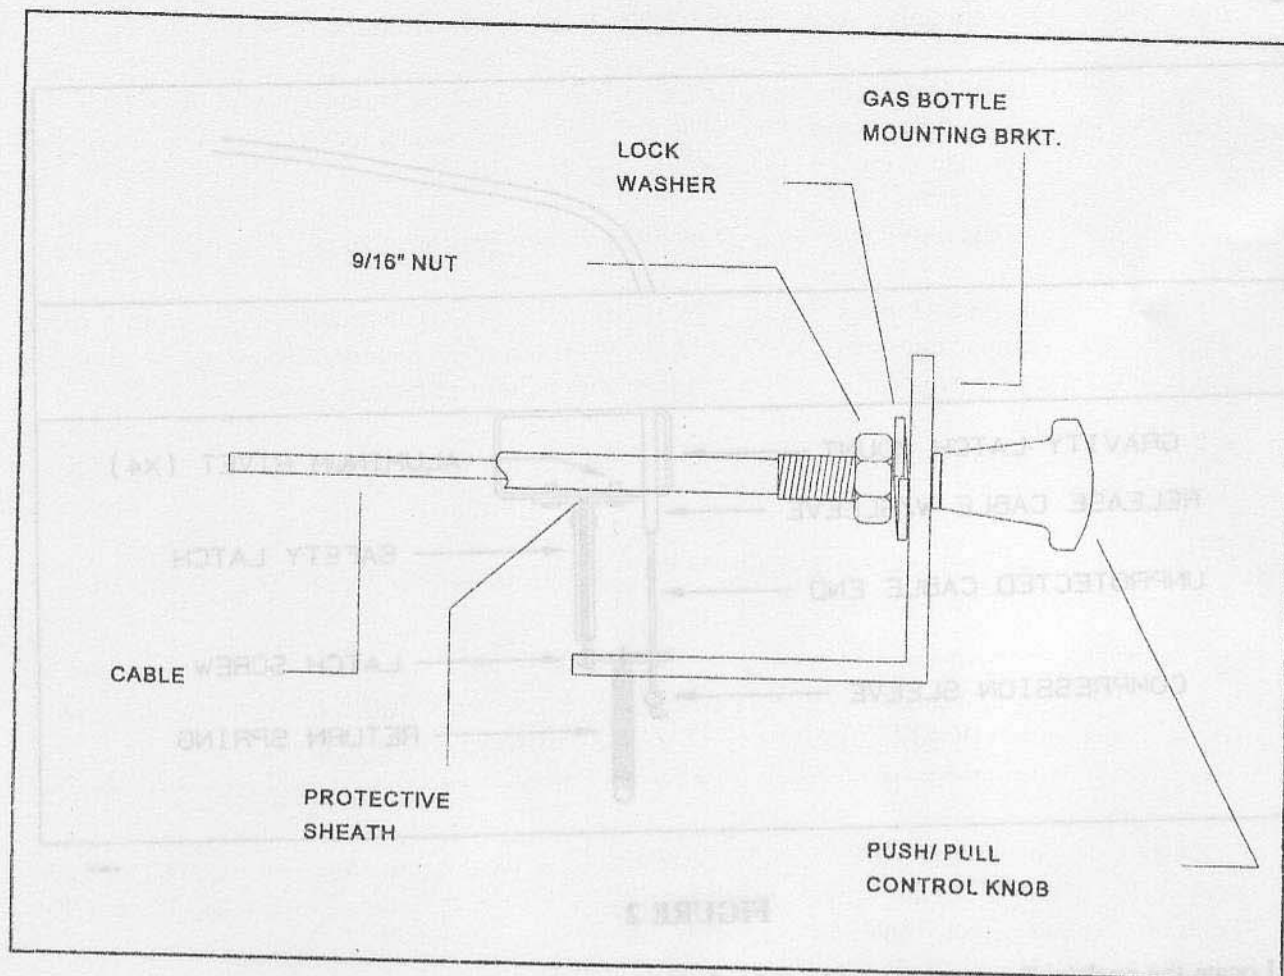

FIGURE 3
9. Using a 9/16" wrench, completely remove the nut and the lock washer from the threaded portion of the push/pull control assembly. See figure 3.
13. **For Americana and Grand Tour series only:** Guide the push/pull control assembly through the front gas bottle angle or pump mounting plate and tighten the nut and lock washer against the gas bottle or mounting plate using a 9/16" wrench. See figure 3.